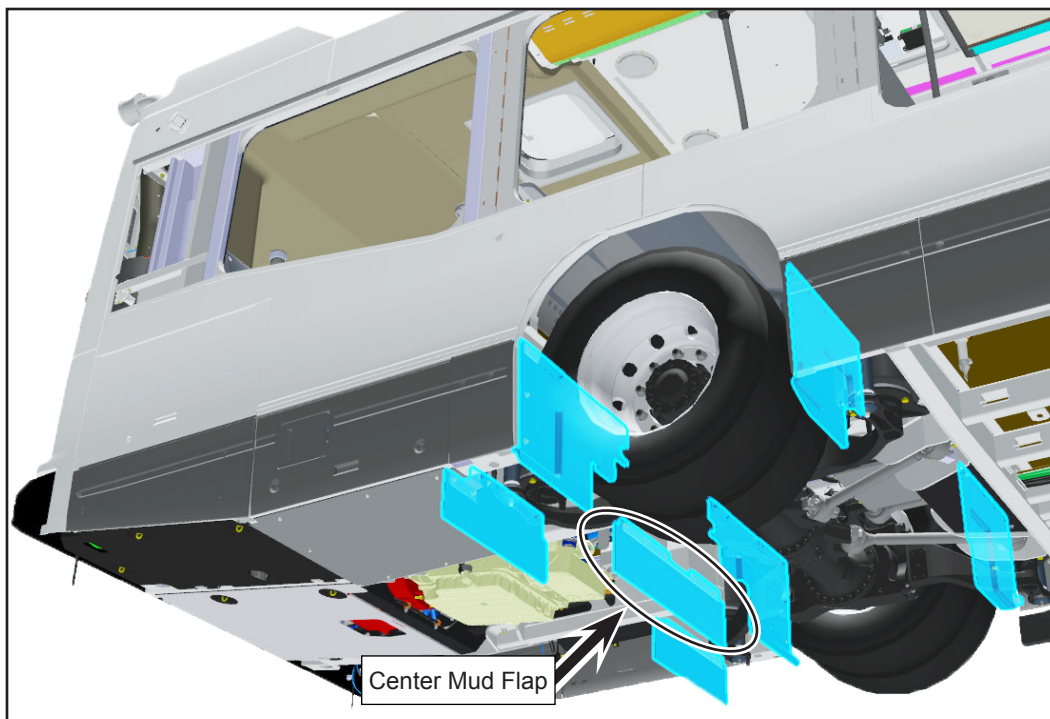

Figure 26 - Remove the Center Mud Flap
- 1.86. Remove the center mud flap (it could be reinstalled for the winter months) (see Figure 26).